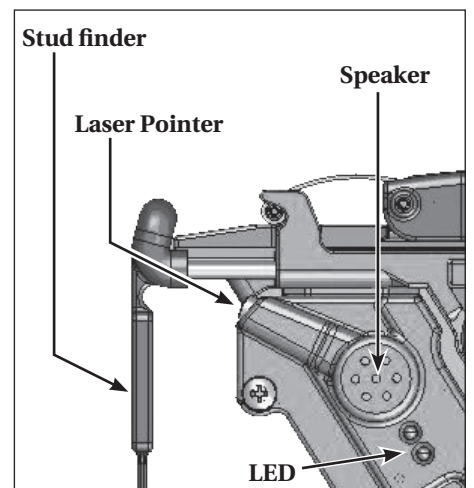

Figure 23
6. The stud finder should beep and the stud finder indicator light will turn red for a second while it calibrates. Once calibrated, the light should turn green. Do **NOT** move the tool while the stud finder calibrates (See Figure 23).
7. When the light turns green, begin dragging the depressed WCE over the wall "searching" for studs. When moved near the edge of a stud, the stud finder light will begin to quickly flash a red light and the begin beeping quickly (See Figure 23).
8. When moved directly over a stud, the stud finder will emit a constant red light and beep (See Figure 23).